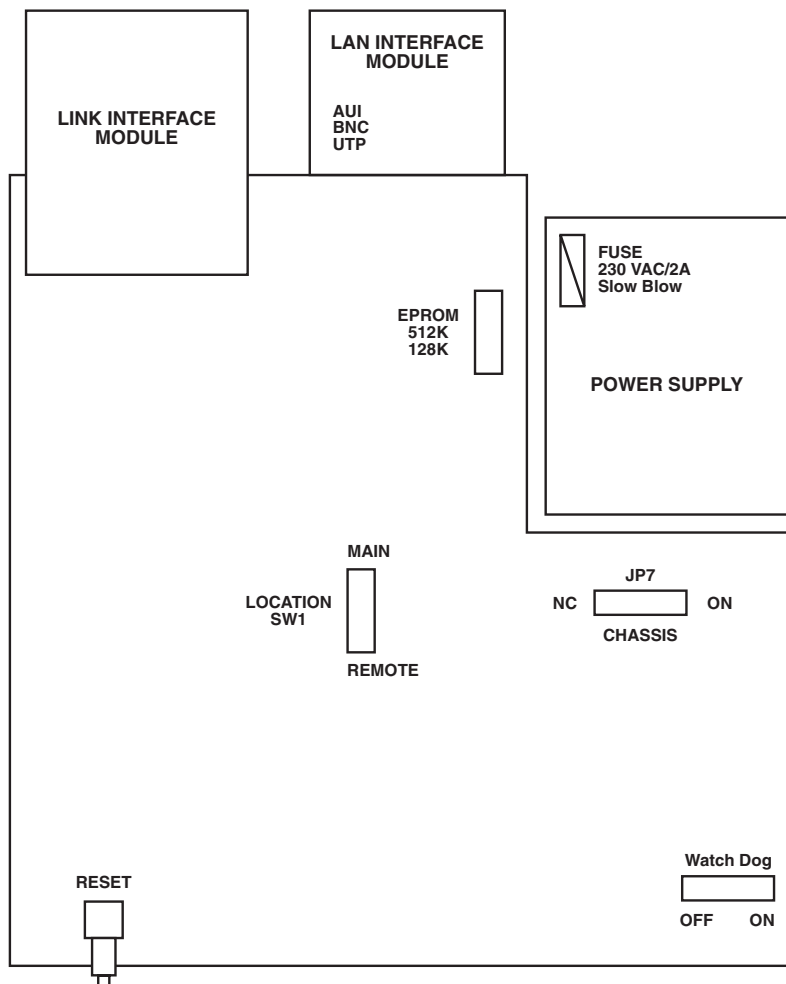

Figure 3-1. Ethernet Extender Printed Circuit Board.
3. Set the jumpers (refer to Figure 3-1) according to the instructions in the following paragraphs, using Table 3-1 as a reference for the jumper configuration.